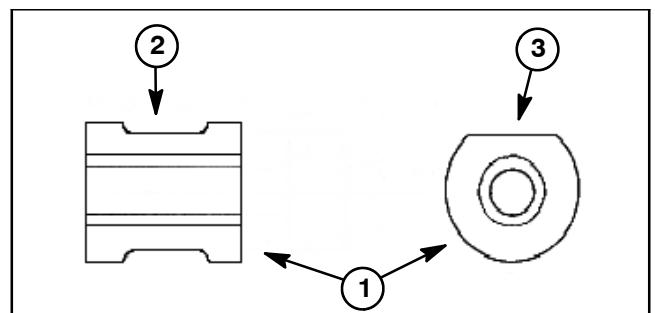

Figure 18
3. Check the rollers (Fig. 18). If binding or uneven wear is found, replace all rollers as a set.